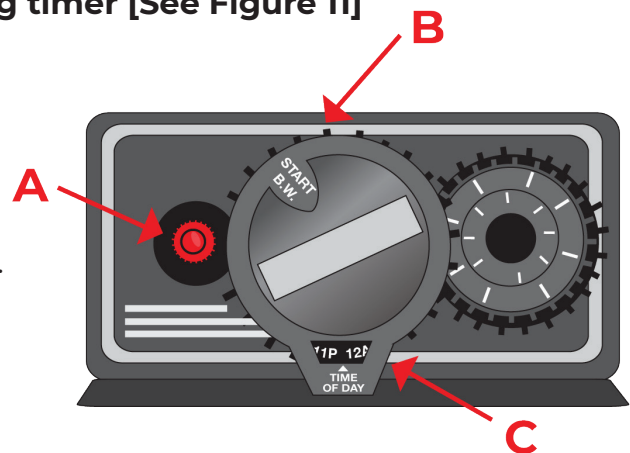

Figure 11 - Filter **BACKWASH** position
2. Lift off the valve cover on the filter unit and turn the control knob on your left (as you face the tank) **CLOCKWISE** to the **BACKWASH** position (notch roughly to the 12 o'clock position) [See Page 17, Figure 11].
To reset the weekly automatic self-cleaning timer [See Figure 11]